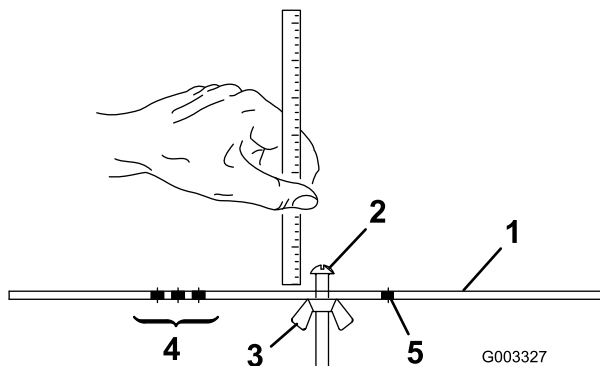

Figure 22
2. Loosen nut on gauge bar (Figure 22) and set adjusting screw to desired height-of-cut. Distance between bottom of screw head and face of bar is height-of-cut.